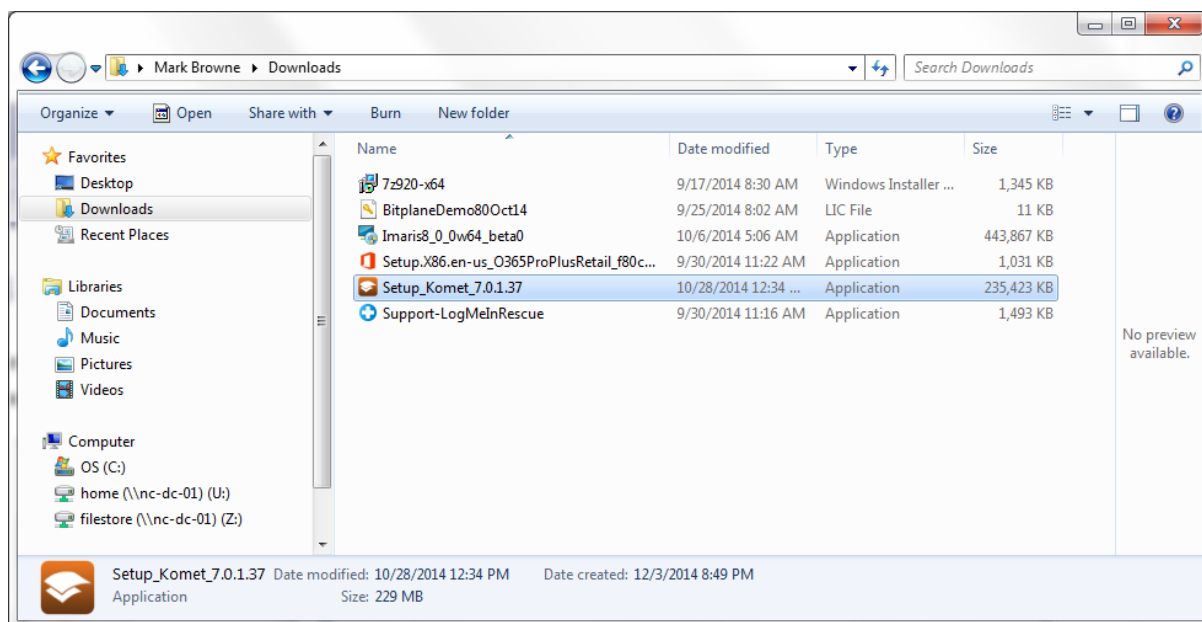

Figure 185. Installing from a file downloaded from MyAndor.
1) Assuming you have downloaded Komet or GLP from MyAndor: Open Windows Explorer and select the Downloads folder as shown in Figure 185. Double click on the Komet installation file (note the version number will be different from that shown). This will Run the installation.